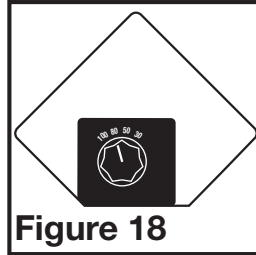

Figure 18
- Remove the grill and find the adjustment post on the top of the wire compartment (**Figure 18**).